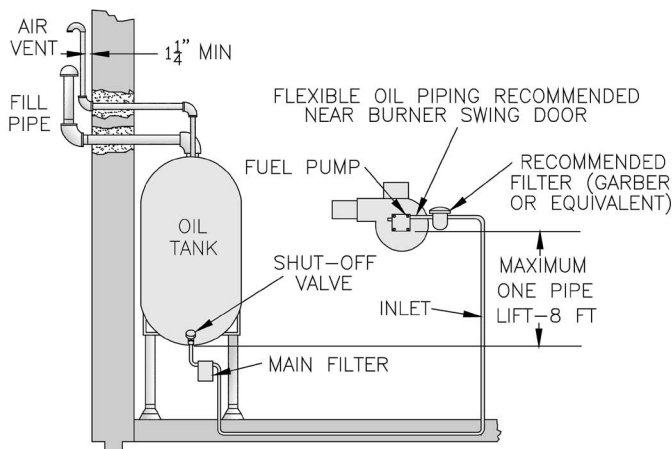

Figure 8-1: Single Pipe Oil Line
Heat Anticipator in Thermostat should be set to match the requirements of the control to which it is connected. See Figures 8-1 and 8-2 for desired system and heat anticipator setting. If system tends to overheat above the thermostat's temperature setting, reduce heat anticipator setting by .1 or .2 amps. If system tends to short cycle without reaching desired room temperature, increase heat anticipator setting by .1 or .2 amps.
2. The single-stage fuel unit may be installed single-pipe with gravity feed or lift. Maximum allowable lift is 8 feet. See Figure 8-1.